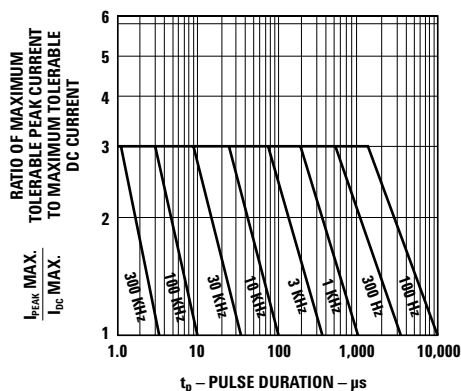

Figure 5. Maximum tolerable peak current vs. pulse duration. ( $I_{DC}$  MAX as per MAX ratings).
- See Figure 5 (Red), 10 (Yellow), or 15 (Green) to establish pulsed operating conditions.